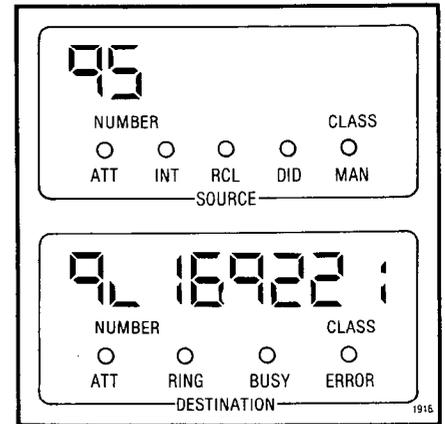

Fig. 505-2
- Destination display shows all digit, pauses and manual insertion digits (Fig. 505-2)